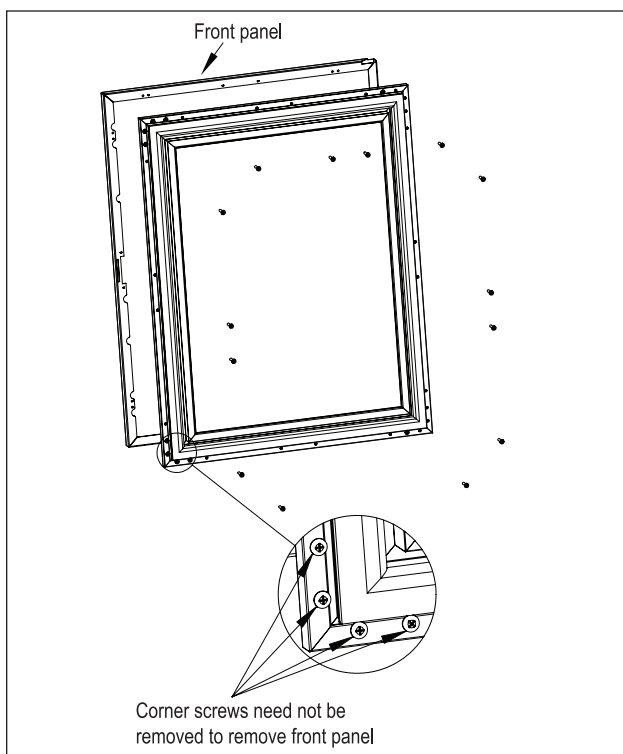

Figure 7: Removing Front Panel
- Remove the front panel from the door assembly by removing the inner mounting screws, 4 per side, from the perimeter of the door assembly (Figure 7). Rotate the front panel 180°. The top becomes the bottom. Reattach using the same screws and mounting holes.